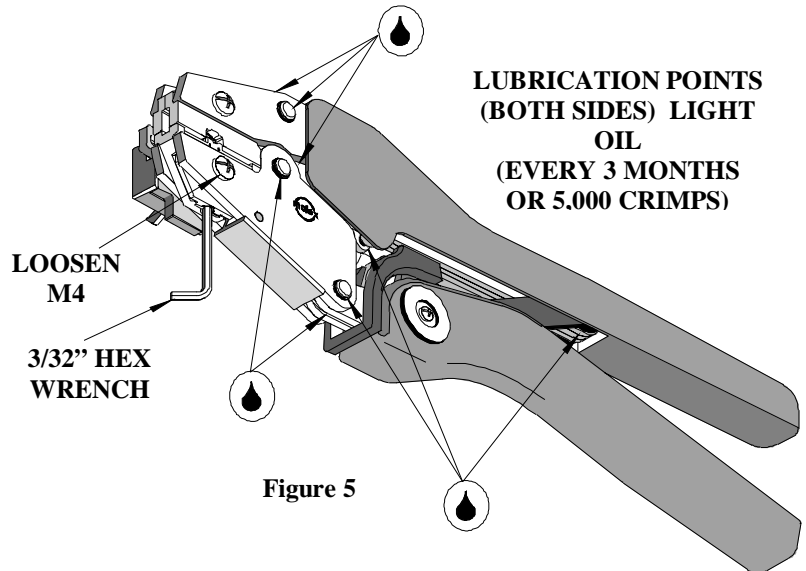

Figure 5
5. If the insulation part of the crimp needs to be adjusted, first loosen the M4 screw on the bottom tool jaw, then insert a 3/32 hex wrench (supplied) into the bottom of the lower die (See Figure 5). A clockwise (CW) rotation decreases insulation crimp while a counter-clockwise (CCW) rotation increases insulation crimp. After adjusting retighten the M4 screw.
3. Make certain all pins, pivot points and bearing surfaces are protected with a thin coat of high quality machine oil. Do not oil excessively. The 64001-1400 (RHT-2100) was engineered for durability, but like any fine piece of equipment it needs cleaning and lubrication for a maximum service life of trouble-free crimping. A light oil, such as 30 weight automotive oil used at the oil points shown in Figure 5, every 5,000 crimps or 3 months will significantly enhance the tool life and ensure a stable calibration.